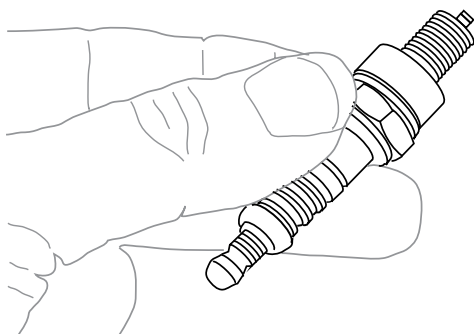

Figure 7
3. When installing a new spark plug, adjust the plug's gap to the specification on the technical specification chart. Do not pry against the electrode or the insulator, the spark plug can be damaged (see Figure 7).